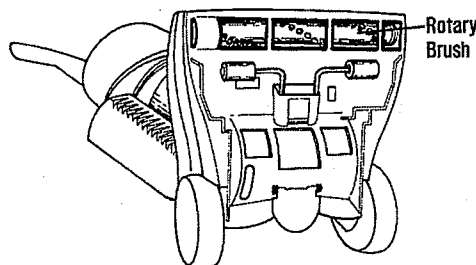

Figure 20
4. Clean out threads, pet hair and other debris that have gathered between the bristles of the Rotary Brush. (See Figure 20.)